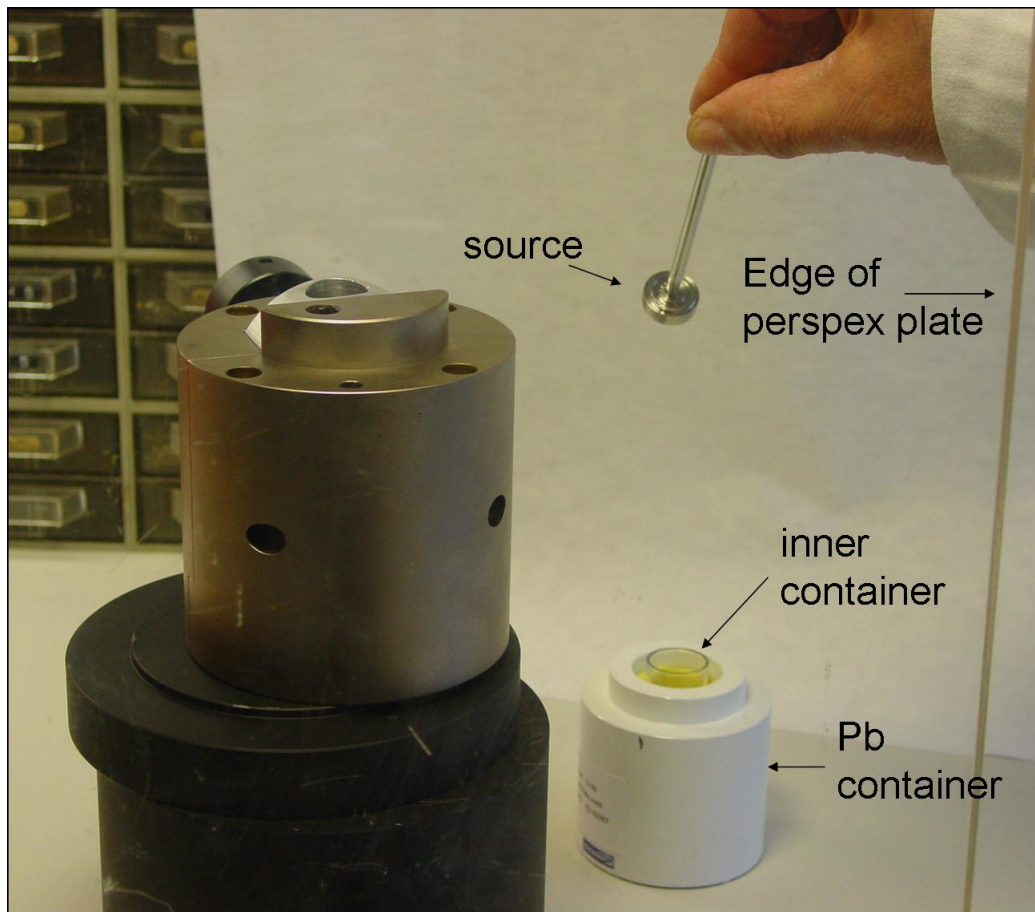

Figure 4.18: Inserting the source I.
8. Place a 10 mm thick perspex/plexiglass plate (or another beta-thick transparent absorber e.g. 3 mm of window glass) in front of the irradiator (this transparent sheet will absorb all beta rays during loading). Place the lead container with the source behind the perspex and take off the container lid. Remove the plastic lid from the inner container as quickly as possible. Lift out the foam plastic packing using a pair of tweezers. Then use the handling rod to lift up the source from the container (turn rod clockwise to fix it in the tread hole of the source). The source must always be pointed away from the operator. The operator must wear safety glasses and must at all times look through the perspex plate during the loading operation (Figure 4.18)